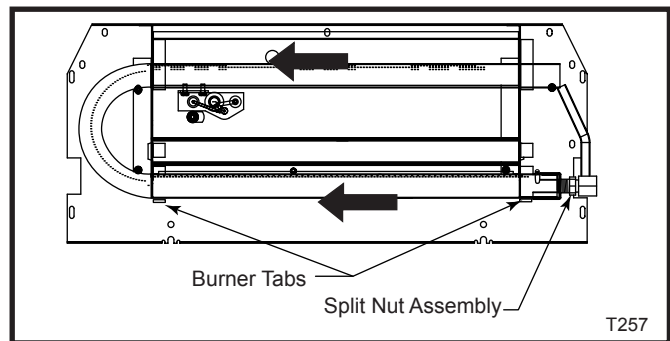

Fig. 41 Bend tabs down, loosen split nut assembly and slide burner tube to the left.
1. Remove the two (2) screws holding the pilot to the burner bracket.
3. Use screwdriver and bend burner tabs outward. (Fig. 41)
4. Loosen the split nut assembly to remove from burner/air shutter. Slide burner tube to the left and off burner orifice. (Fig. 41)